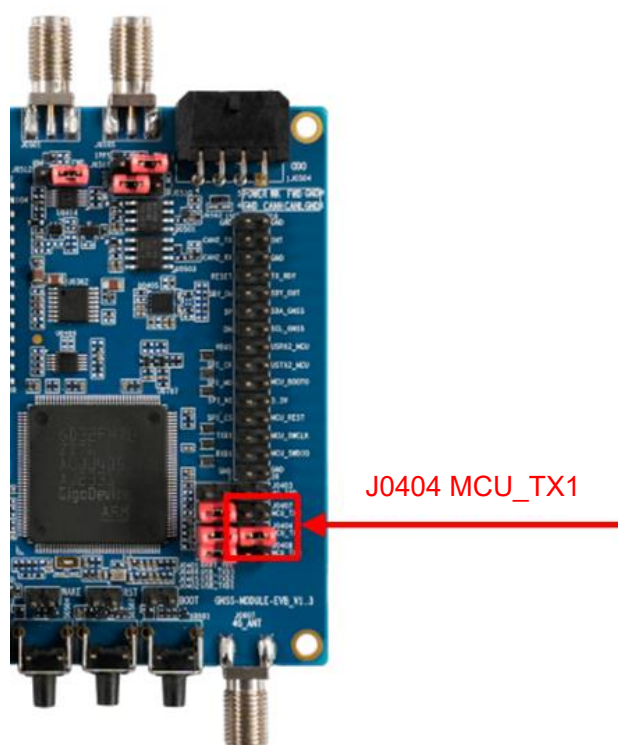

Figure 20: Connection Between MCU UART1 and Module UART1
- To inject the converted vehicle speed into the module via UART, refer to Figure 20: Connection Between MCU UART1 and Module UART1 to short-circuit the two pins of J0401.